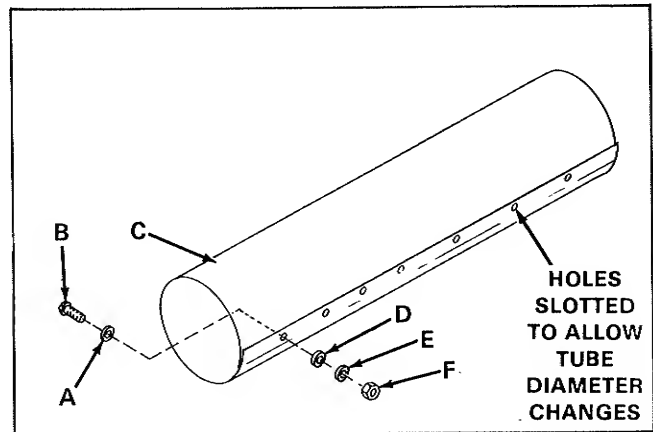

Figure 12. Assemble Discharge Tube
3. Discharge tube works off grass catcher adaptor on mower.	Tube too tight. Increase diameter of tube. (See figure 12.)
To assemble the grass discharge tube, roll the clear plastic material (C, figure 12) into a tube. Place a flat washer (A) on a screw (B) and insert the screw through the pair of holes along the edges of the plastic. The screw head must be on the inside of the tube. Then place another flat washer (D) and a lockwasher (E) on the screw outside of the tube before installing the nut (F). Repeat this procedure six more times to fasten the tube together at the seven sets of holes. Then tighten all seven nuts. Install the tube and cover as follows.